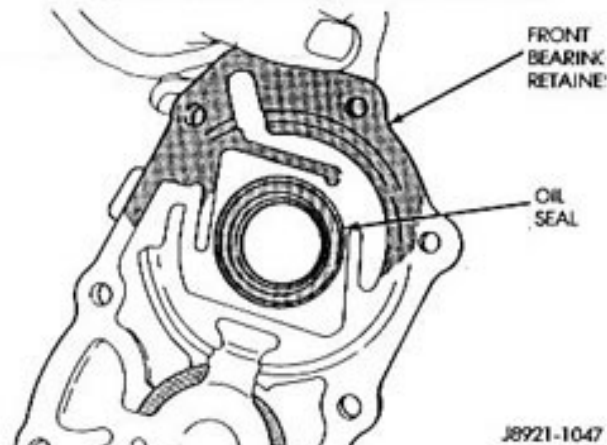

Fig. 17 Front Bearing Retainer Seal Location
(2) Remove the retainer oil seal with a pry tool (Fig. 17).